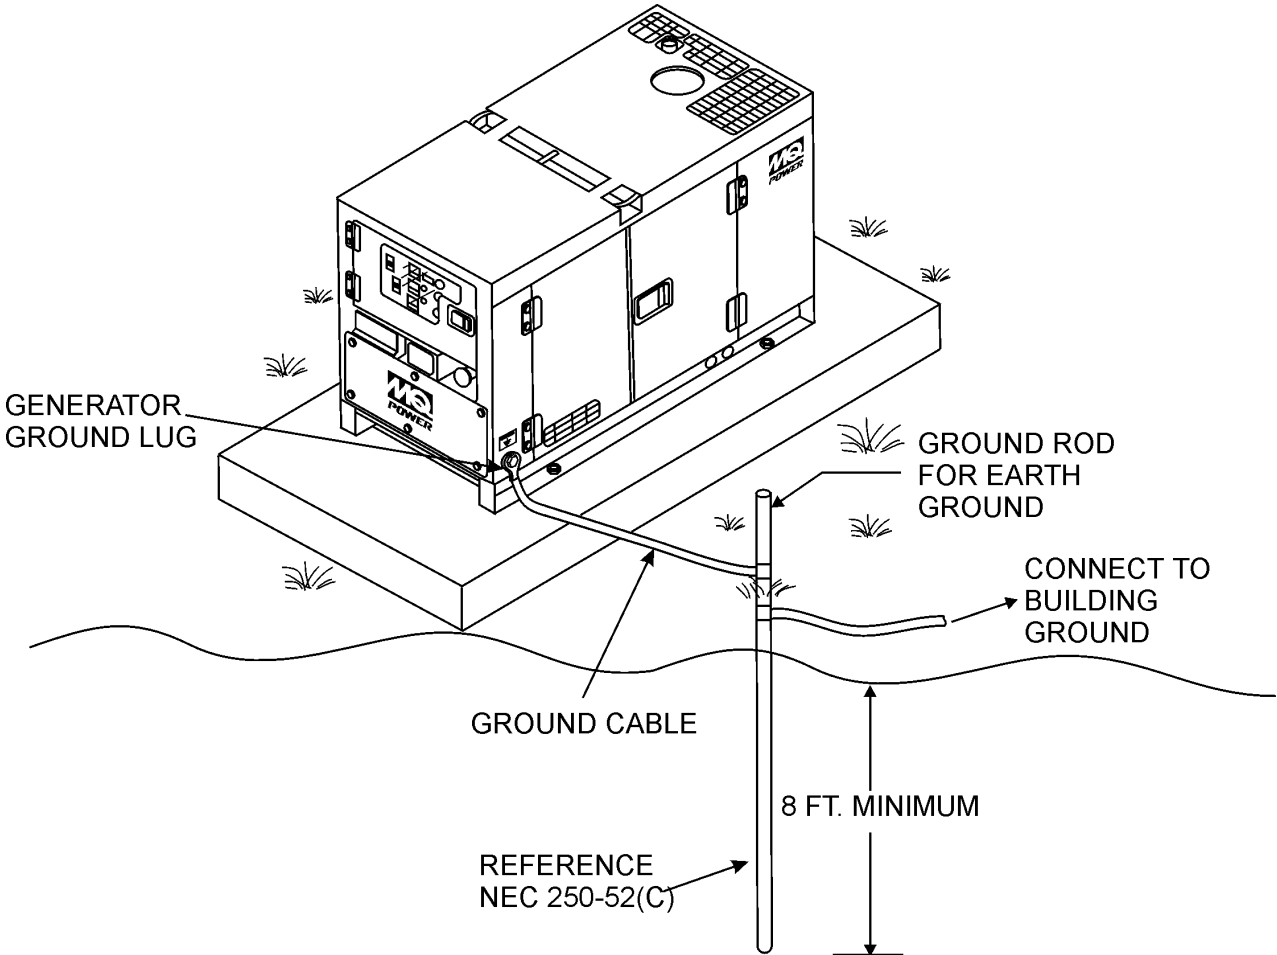

Figure 26. Typical Generator Grounding Application
2. When grounding the generator (Figure 26) connect the ground cable between the lock washer and the nut on the generator and tighten the nut fully. Connect the other end of the ground cable to earth ground.